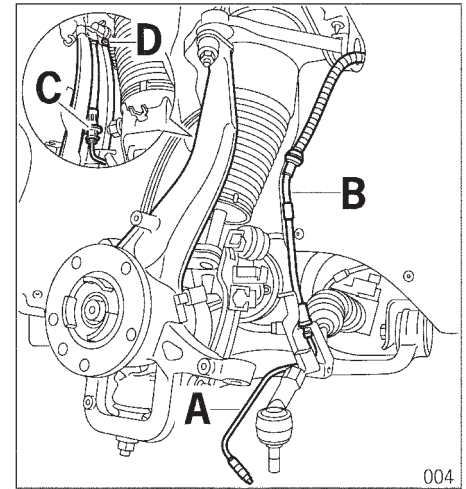

Figure 4
7.8 Secure brake hose and brake line to wheel carrier using screws, Figure 4, Inset.
Tightening torque for cable holder screw, Figure 4, item C: 9 Nm (6.5 ftlb.)
Tightening torque for brake hose holder screw, Figure 4, item D: 30 Nm (22ftlb.)